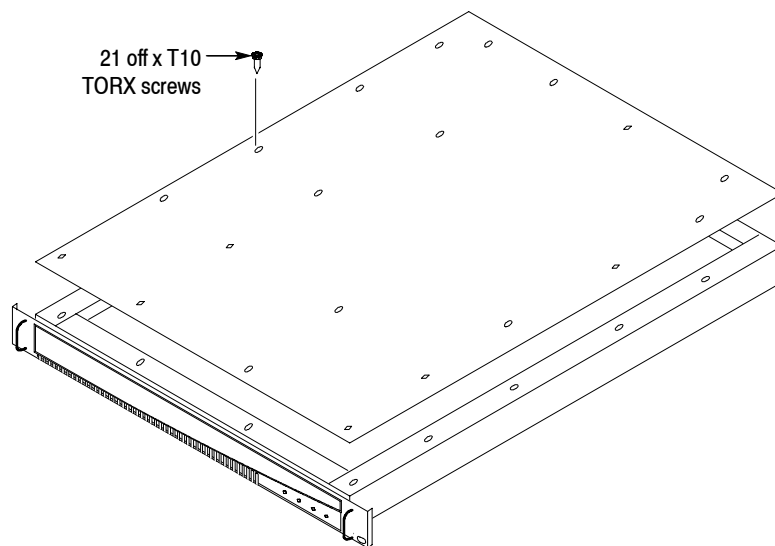

Figure 16: Removing the instrument cover
1. Remove the 21 cover retaining screws (see Figure 16) and set them aside.
14. Line up the instrument top cover and replace the 21 retaining screws (see Figure 16 on page 22).